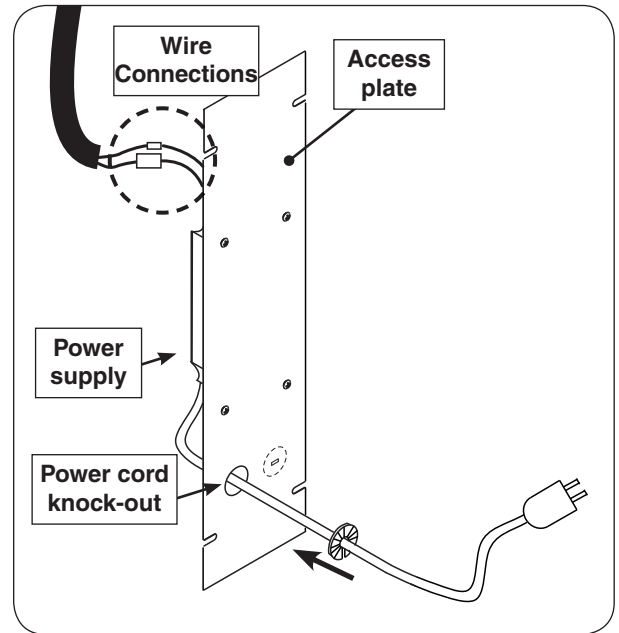

Fig. 19-1 Access plate view & orientation
A power supply is pre-mounted to the access plate. For ease of installation, disconnect the power supply from the wire harness extension. Locate the wires coming from the inside of the post to the power supply and carefully disconnect (see Fig. 19-1 and 19-2).
4. Install the bushing onto the power cord and slide the bushing up against the access plate knock-out hole and snap into place. See Fig. 19-1.